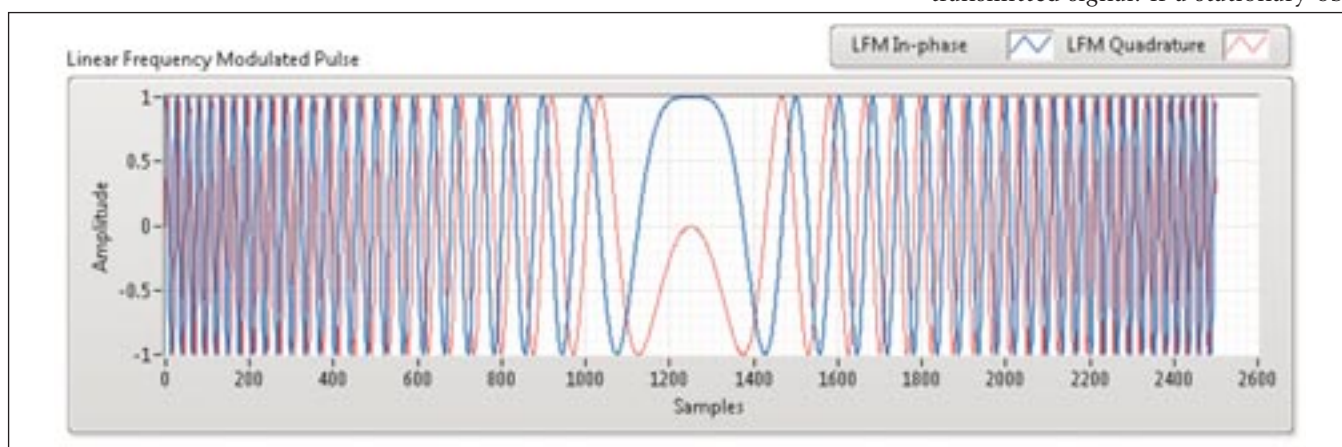

Figure 2. Example LFM waveform where a pulse ramps from high frequency to low, and back again.
Among active radar systems, there are several common signal types. The most basic is continuous wave (CW) radar, where a constant frequency sinusoidal signal is transmitted. The CW signal allows the receiver to detect phase/frequency variations (Doppler shift) from the target reflection. Unless a special provision for absolute time marker is used, however, range detection is not possible. A modified CW signal using a stepped frequency modulated (SFM) signal obtains a better range estimate by hopping over multiple discrete frequencies. A further modification of the CW signal to linearly ramp up and down a range of frequencies is called linear frequency modulation (LFM) or frequency modulated CW (Figure 2). An LFM radar allows detection of Doppler as well as range by observing the frequency difference of the time-delayed received signal from the transmitted signal. If a stationary ob-